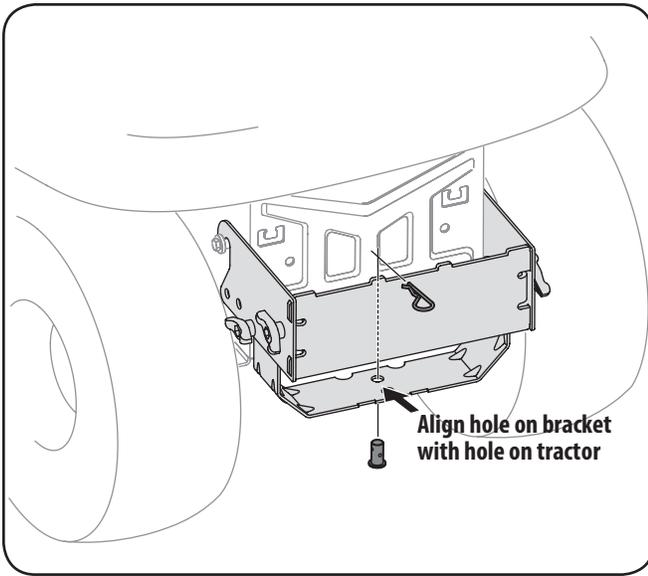

Figure 3-6
2. Install the (711-0309A) clevis pin, included in hardware pack 689-00328A, into the tractor's hitch and secure with a (714-0117) clip pin from the same hardware pack. See Figure 3-6.